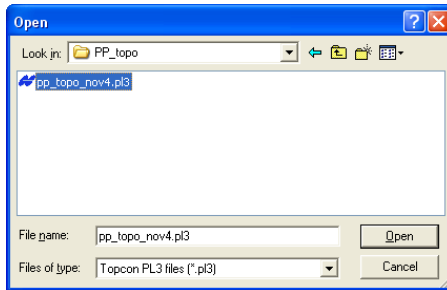

Figure 7-1. Open 3D Plane Surface File
2. On the **Open** dialog box, navigate to the location of the desired file, select it, and click **Open** (Figure 7-1 on page 7-2). The plane surface from the selected file is added to the 3D Project file.